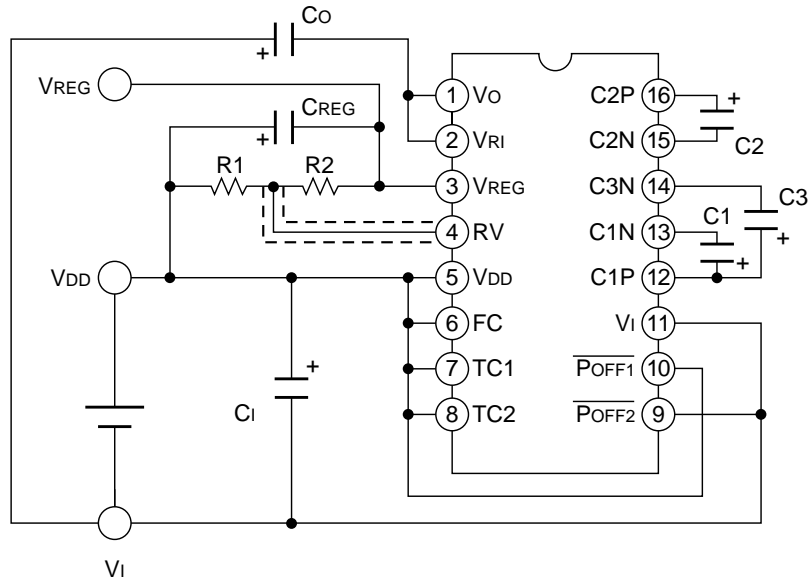

Figure 2.8 Wiring example of 4-time booster and regulator
Figure 2.8 gives a wiring example of four-time booster and regulator that is the typical S1F76540 application. This example boosts the input voltage ( $V_I$ ) four times in
- ◇ Setup conditions of Figure 2.8
- ① When used in the High Output mode